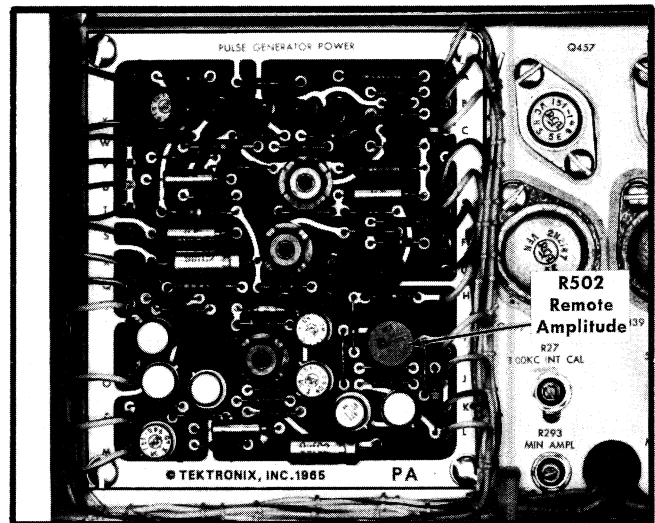

Fig. 6-13. Location of Remote Amplitude adjustment (Pulse-Generator Power board).
f. Adjust—Remote Amplitude adjustment, R502 (see Fig. 6-13), for a six-division display.